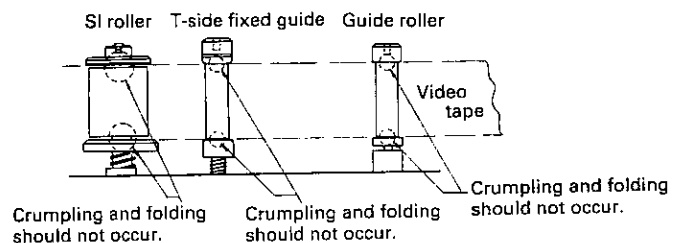

Figure 22.
- Check that the edge of the video tape does not fold or crease, as shown in figure 22, during the travel of the tape.